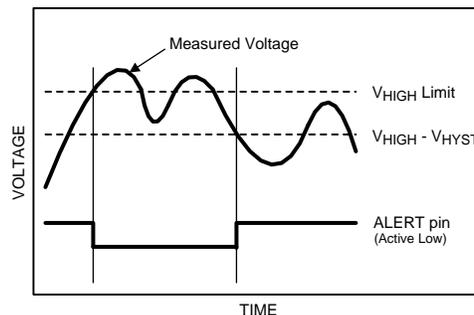

Figure 9. Alert condition cleared when measured voltage crosses $V_{HIGH} - V_{HYST}$
The ALERT function is an "out-of-range" indicator. At the end of every conversion, the measured voltage is compared to the values in the V_{HIGH} and V_{LOW} registers. If the measured voltage exceeds the value stored in V_{HIGH} or falls below the value stored in V_{LOW} , an alert condition occurs. The Alert condition is indicated in up to three places. First, the alert condition always causes either or both of the alert flags in the Alert Status register to go high. If the measured voltage exceeds the V_{HIGH} limit, the Over Range Alert Flag is set. If the measured voltage falls below the V_{LOW} limit, the Under Range Alert Flag is set. Second, if the Alert Flag Enable bit is set in the Configuration register, the alert condition also sets the MSB of the Conversion Result register. Third, if the Alert Pin Enable bit is set in the Configuration register, the ALERT output becomes active (see Figure 9). The ALERT output (ADC121C021 only) can be configured as an active high or active low output via the Polarity bit in the Configuration register. If the Polarity bit is cleared, the ALERT output is configured as active low. If the Polarity bit is set, the ALERT output is configured as active high.
2. The measured voltage goes below the programmed V_{HIGH} limit minus the programmed V_{HYST} value and the Alert Hold bit is cleared in the Configuration register. (see Figure 9). If the Alert Hold bit is set, the alert condition persists and only clears when a one is written to the Over Range Alert Flag bit.